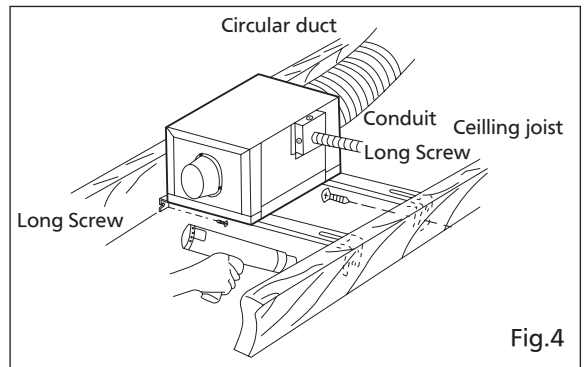

Fig.4
- Attach the IN-LINE Fan to a joist or a pillar with the long screws. (Fig.4)